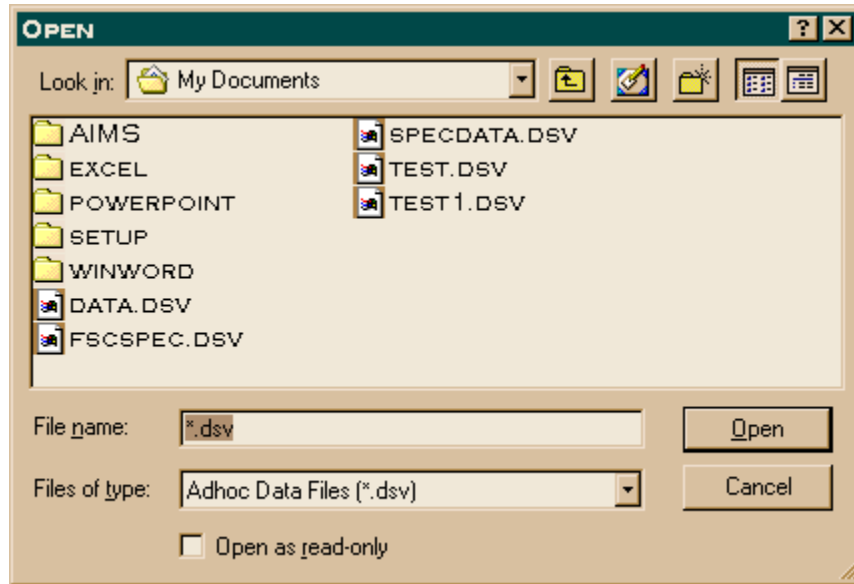

Figure 6.8a
a. When you want to retrieve a saved data file, you will either select ADHOC, and Open Data file from the drop-down menu or simply click on the Open an Existing Data File Icon on the toolbar. This brings up the Open Window with Adhoc Data Files of type listed (see Figure 6.8a). Highlight the data file you want and do a quick double click.